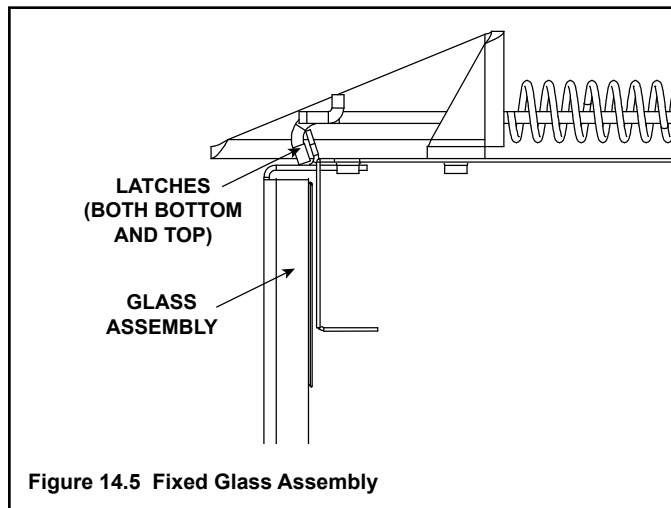

Figure 14.5 Fixed Glass Assembly
- Pull the four glass assembly latches out of the groove on the glass frame. Remove glass door from the appliance (see Figure 14.5).